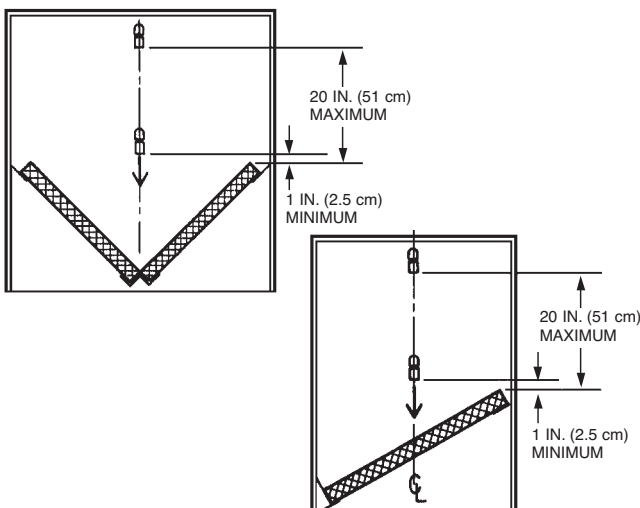

FIGURE 7
- **Option 1:** The 1W nozzle must be on the center line of the single or "V" bank filter and positioned within 1-20 in. (2.5-51 cm) above the top edge of the filter. See Figure 7.